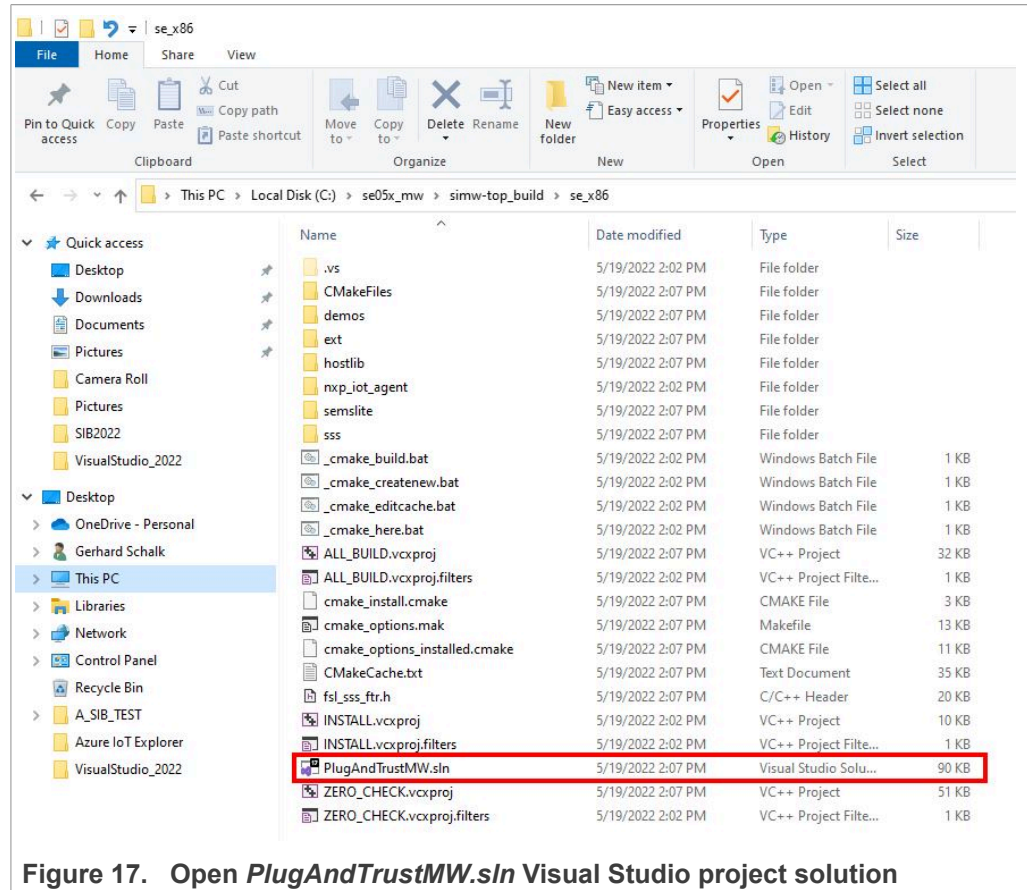

Figure 17. Open *PlugAndTrustMW.sln* Visual Studio project solution
- Go to the `C:\se05x_mw\simw-top_build\se_x86` directory. Double click the **PlugAndTrustMW.sln** Visual Studio project solution as shown in Figure 17: